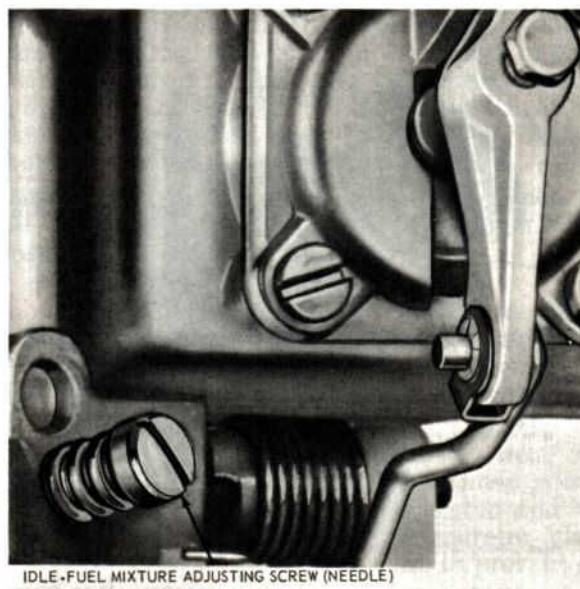

Figure 16—Idle Mixture Screw
**IDLE FUEL MIXTURE AND IDLE SPEED**—The idle fuel system of the carburetor is in operation during cranking and choking, so it must be correctly adjusted to avoid hard starting. The idle mixture screw(s), Figure 16 should be turned out (counterclockwise) about one and a half turns from the fully seated position. **NOTE: IF THE SCREW NEEDLE HAS BEEN TIGHTLY SEATED, THE END MAY BE GROOVED. IF SO, THE NEEDLE MUST BE REPLACED BEFORE A SATISFACTORY FUEL MIXTURE CAN BE OBTAINED.**